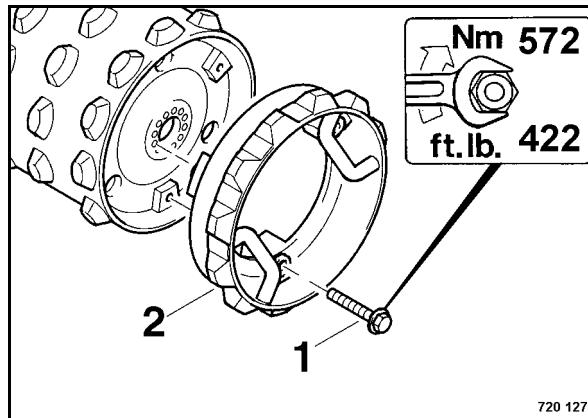

Fig. 84
- Attach drum extensions 2 (Fig. 84) to the drums, turn three fastening screws (1) into each drum and tighten.